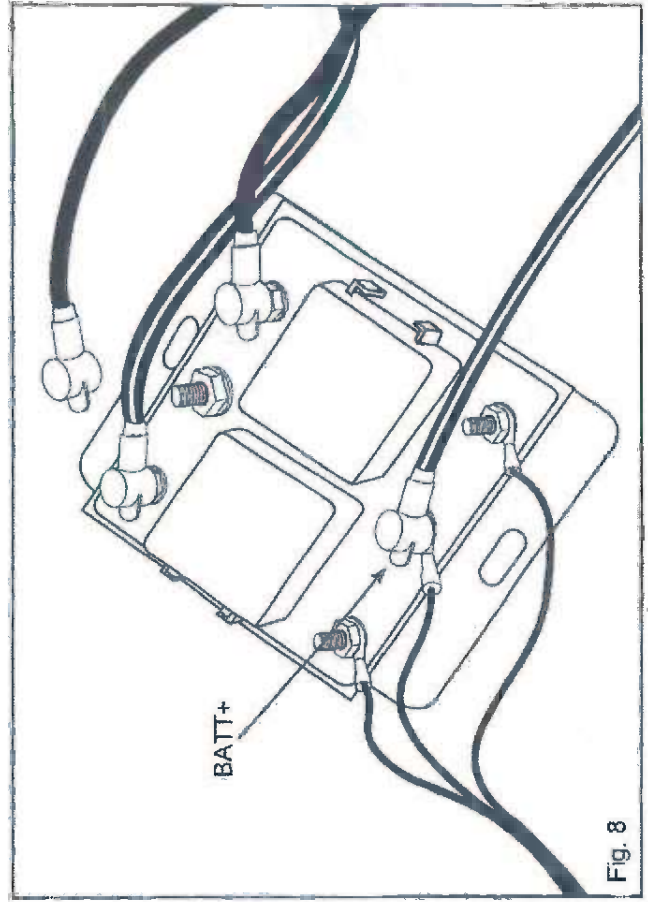

Fig. 8
- D. Attach Red Striped wire to BATT+ on Solenoid, and tighten nut (Fig. 8).